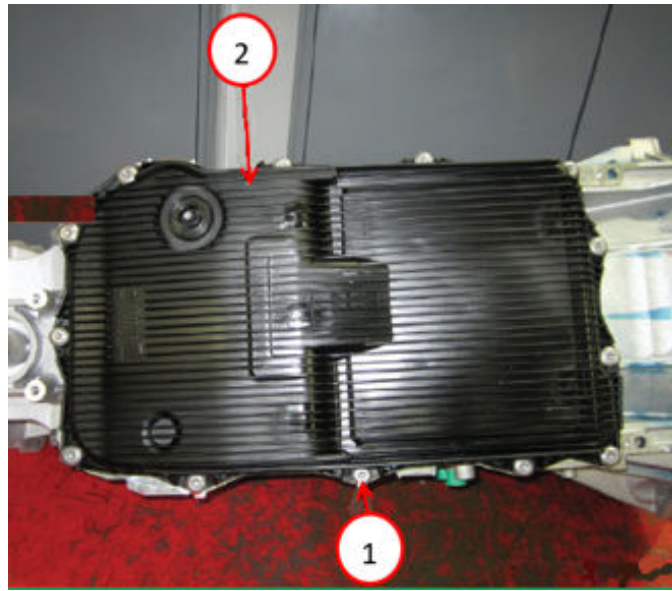

Fig. 49
76. Position the transmission oil pan and gasket Fig. 49.